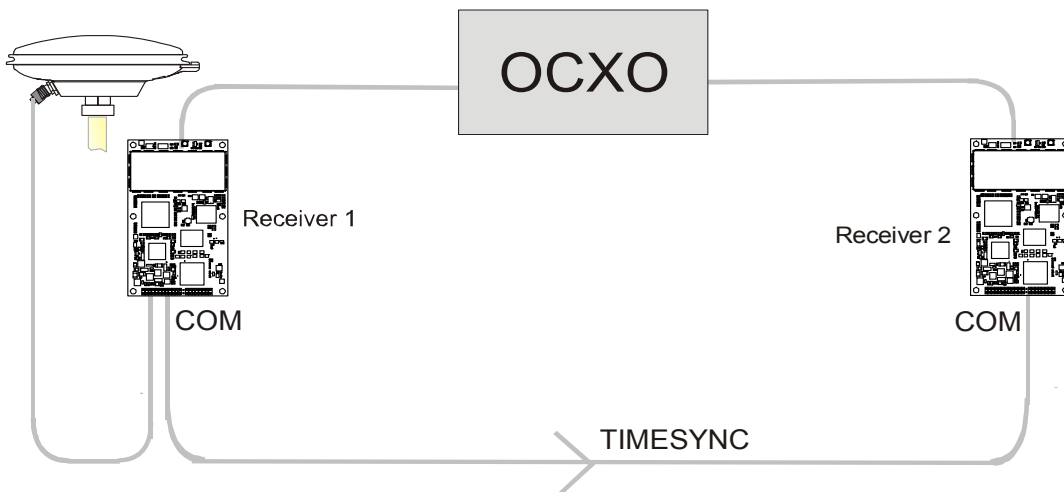
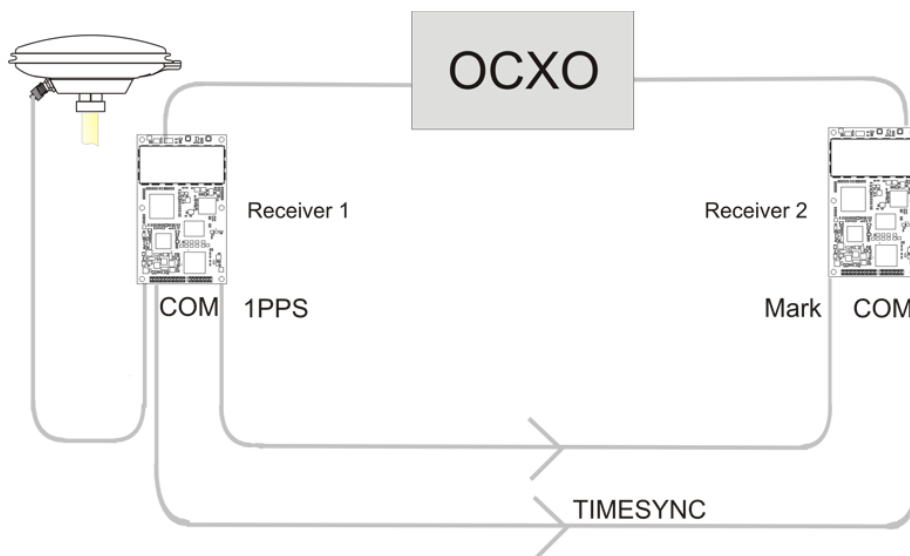
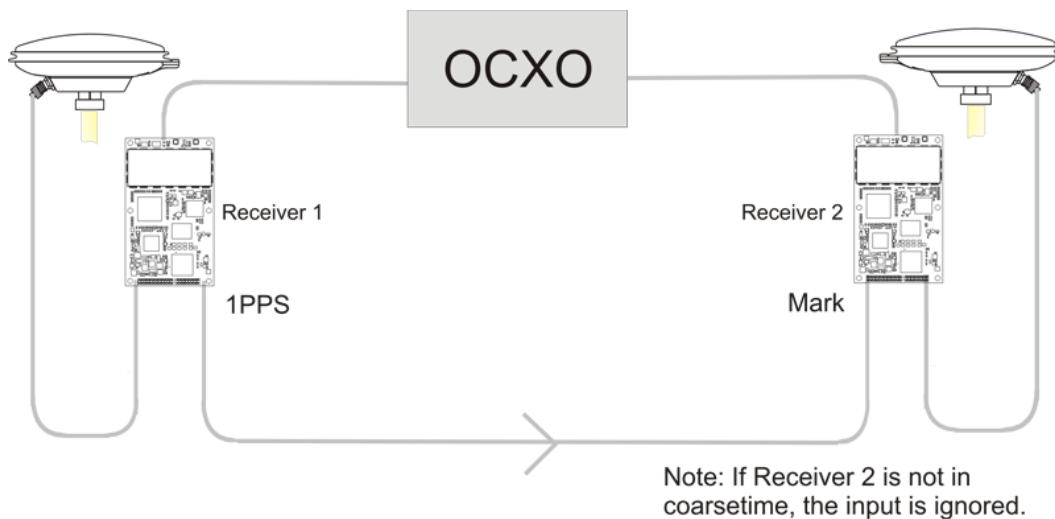

Figure 11: Transfer COARSE time from fine clock to cold clock receiver
Figure 12: Transfer FINE time from fine clock to cold clock receiver
Figure 13: Transfer FINE Time from Fine Clock to Warm Clock Receiver
1. Connect a COM, USB, or Ethernet port from the fine clock receiver to the cold clock receiver (for example, COM2 on the fine clock receiver to COM3 on the cold clock receiver) as shown in *Figure 11*. Configure both ports to the same baud rate and handshaking configurations.
1. Connect a COM, USB, or Ethernet port from the fine clock receiver to the cold clock receiver (for example, COM2 on the fine clock receiver to COM3 on the cold clock receiver), as shown in *Figure 12*. Configure both ports to the same baud rate and handshaking configurations.
1. Connect the 1PPS signal of the fine clock receiver to the Mark 1 input (Event1) of the warm clock receiver as shown in *Figure 13*.
- ☒ The examples shown in *Figure 11*, *Figure 12* and *Figure 13* are for the transfer of time. If you need a position, your receiver must be tracking satellites and must have a valid almanac.